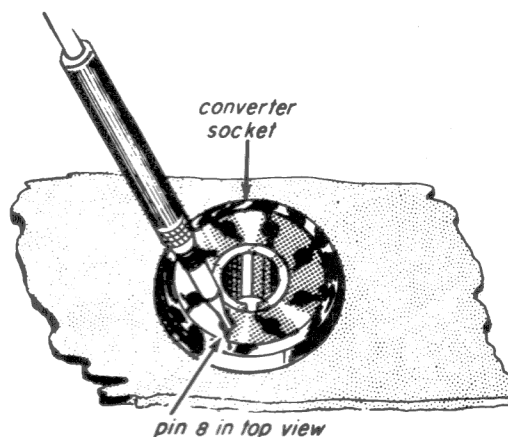

Fig. 33-5
periment can be conveniently performed with the chassis right side up. The meter will read r.f., as explained in a previous experiment lesson. Make sure to count counterclockwise when viewing the tube socket from the top of the chassis (Fig. 33-5).
Step 6. Check to see that one probe of the meter is inserted in Pin 8 of the converter tube as in Fig. 33-5, and the other lead connected to chassis.